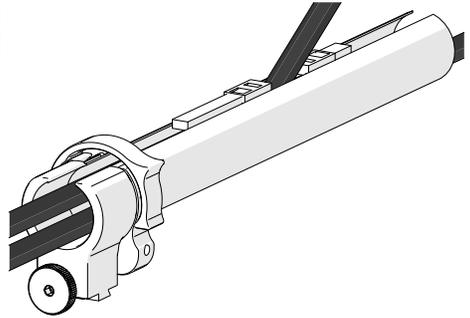

Fig. 73 - Flexibility
4. When necessary, the two zippers may be opened to allow cables to exit the tube anywhere between the ends (Fig. 73).